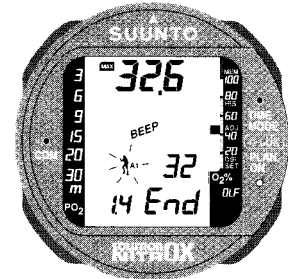

Fig. 4.13 OXYGEN AND PERSONAL/ALTITUDE ADJUSTMENT SETTING
- the personal/altitude adjustment setting scrolls through AO, A1 and A2 (Fig. 4.13 and 4.14).